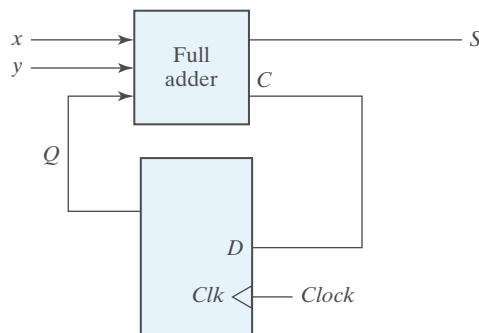

FIGURE P5.7
- 5.7*** A sequential circuit has one flip-flop Q , two inputs x and y , and one output S . It consists of a full-adder circuit connected to a D flip-flop, as shown in Fig. P5.7. Derive the state table and state diagram of the sequential circuit.